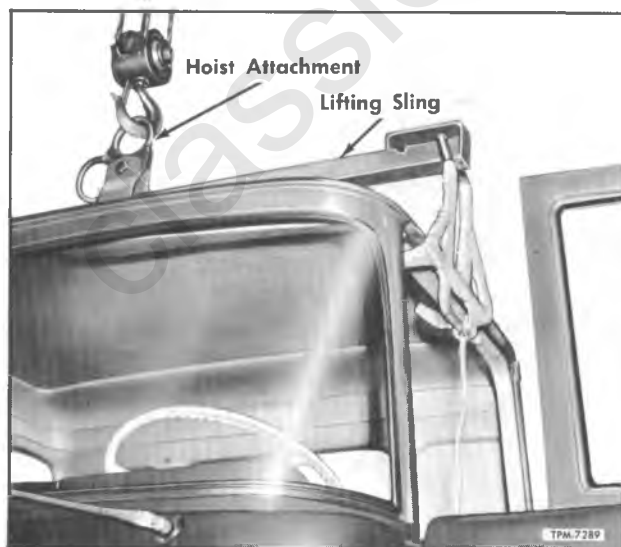

Figure 29—Lifting Sling Attached to Cab
6. Attach a suitable padded lifting sling (fig. 29) to cab with doors partly open (lifting cab with
1. Install lifting sling and chainfall to cab with doors slightly open (fig. 29).